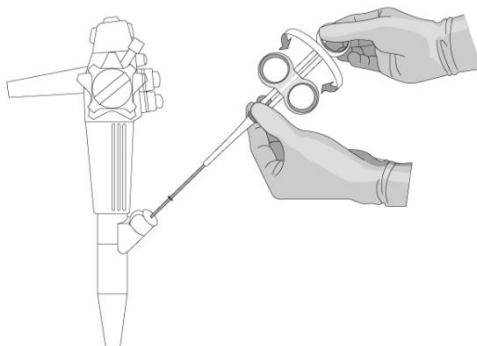

Figure 2
6. Turn the handle to orient the jaws in the optimum direction (see Figure 2).